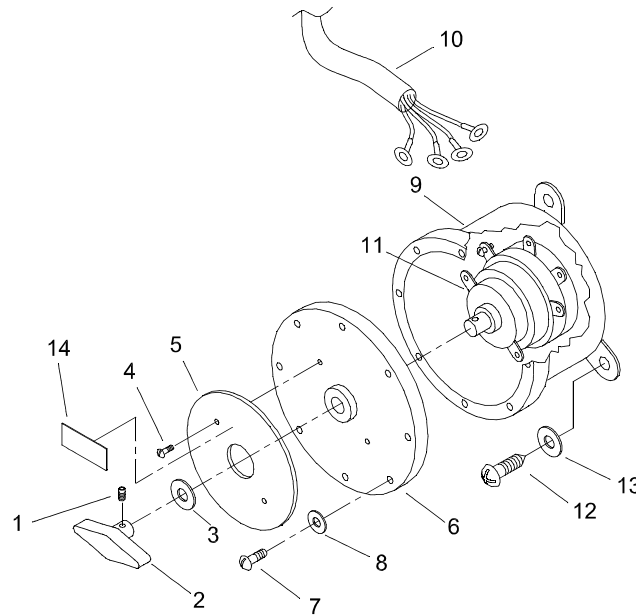

Figure 2. Rotary Switch
2. Loosen screw (figure 2, item 1) and remove light switch knob (figure 2, item 2) and washer (figure 2, item 3).
3. Remove two pan head screws (figure 2, item 4) from faceplate (figure 2, item 5).
4. Remove faceplate (figure 2, item 5) from light switch cover (figure 2, item 6).
5. Remove four pan head screws (figure 2, item 7) and four washers (figure 2, item 8) from light switch cover (figure 2, item 6).
6. Remove switch cover (figure 2, item 6) from light switch enclosure (figure 2, item 9).
7. Label and disconnect wiring (figure 2, item 10) from light switch assembly (figure 2, item 11).
8. Remove wiring harness (figure 2, item 10) from light switch enclosure (figure 2, item 9).
9. Remove three phillips quickscrews (figure 2, item 12) and three washers (figure 2, item 13) securing light switch enclosure (figure 2, item 9) to wall.
11. Position new light switch enclosure (figure 2, item 9) and install three phillips quick screws (figure 2, item 12) and three washers (figure 2, item 13) to secure light switch enclosure (figure 2, item 9) to wall. Tighten phillips quick screws (figure 2, item 12).
12. Install wiring harness (figure 2, item 10) in light switch enclosure (figure 2, item 9).
13. Connect wiring (figure 2, item 10) to light switch assembly (figure 2, item 11) and remove labels.
14. Install light switch cover (figure 2, item 6) onto light switch enclosure (figure 2, item 9).